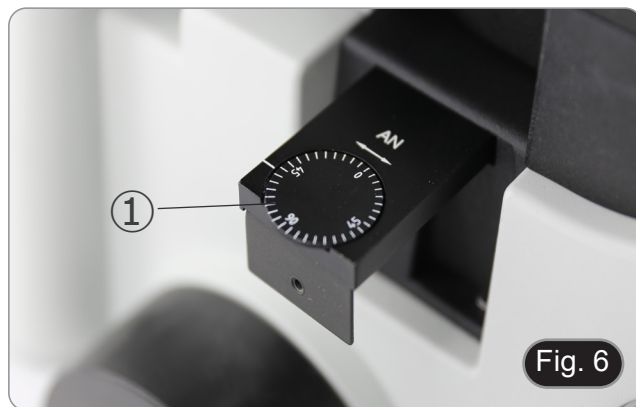

Fig. 6
2. Insert rotatable analyzer in the light path. (Fig. 6)